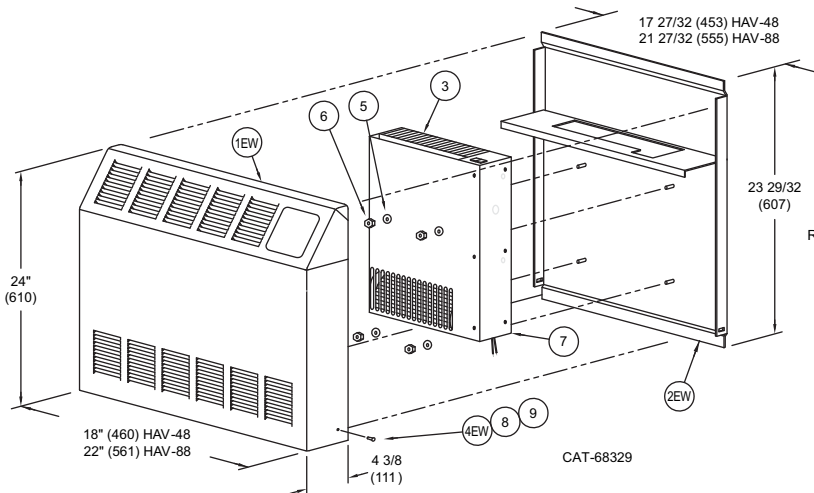

FIGURE 5
- 3.) Mount the Fan/Coil Unit (Item 3) to the back recessed panel, remove the electrical control box cover from fan/coil unit. Secure the fan/coil unit in place using items 5 & 6 as shown in Figure 5. Do not over tighten.